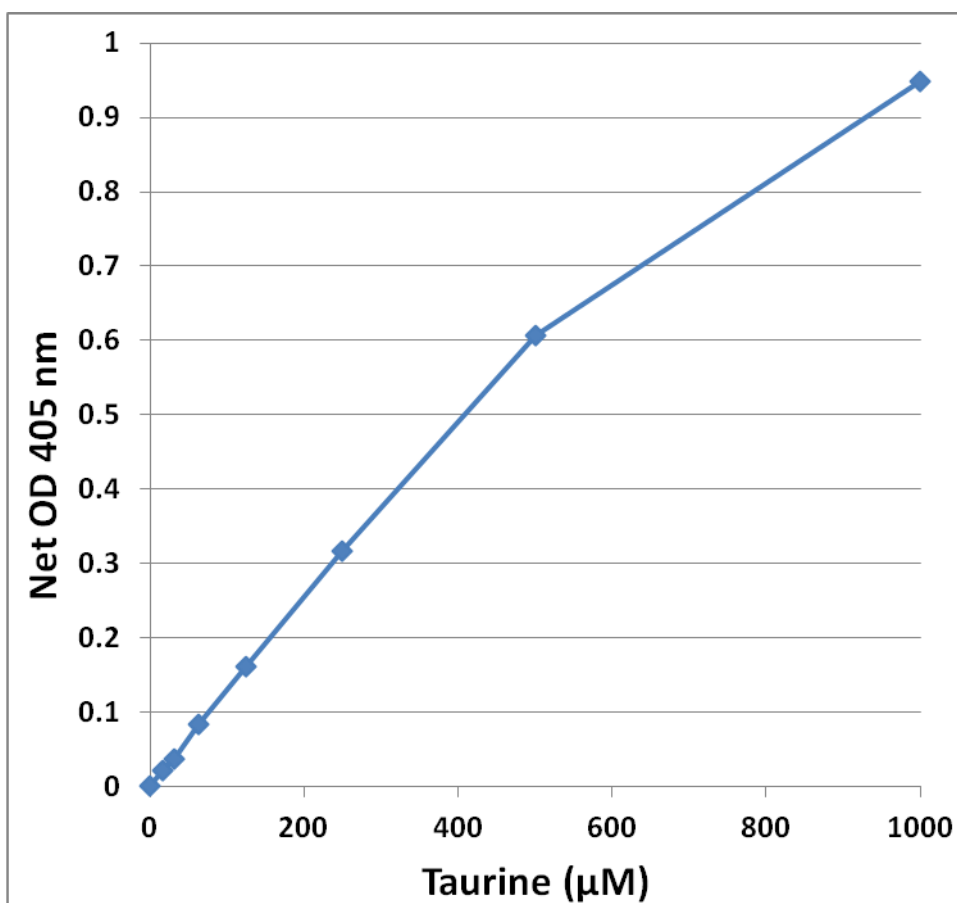

Figure 2: Taurine Standard Curve.
1. Determine the average optical density (OD) values for each sample, control, and standard.
3. Graph the standard curve (see Figure 2).